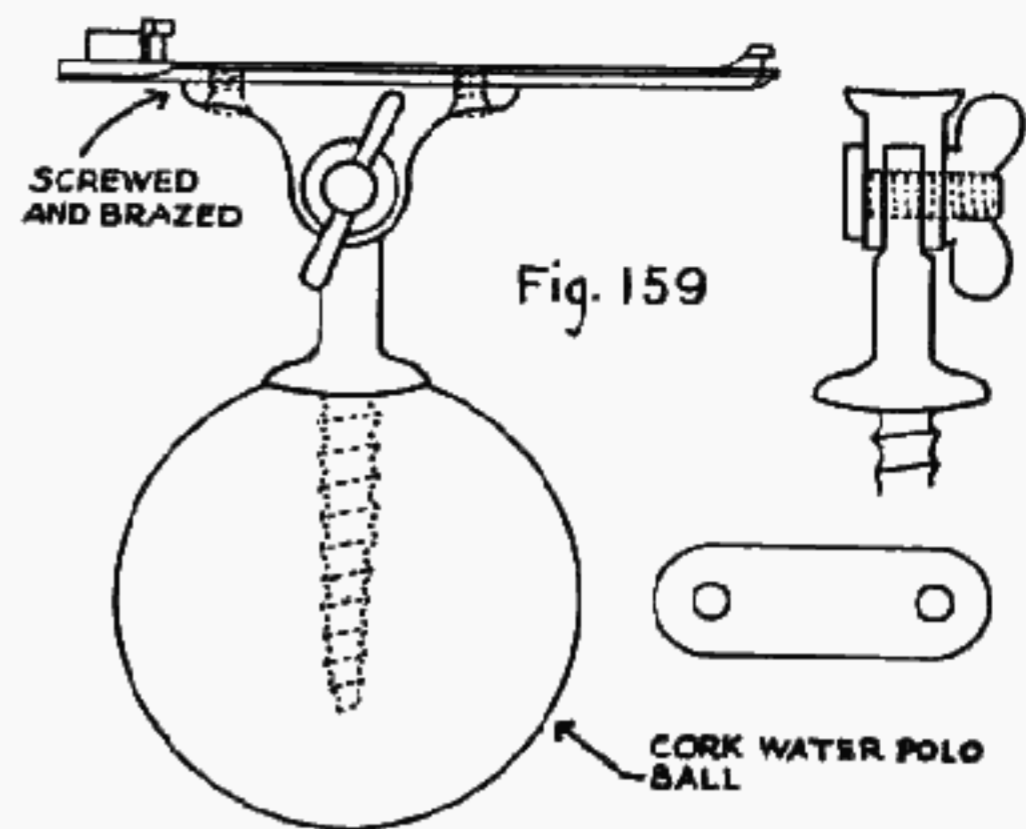

Fig. 159
**PALM REST.** A buttplate of this type naturally suggests a palm rest for the same rifle. Figure 159 gives details of one that is easy to construct and fit. The ball is a regular water polo ball of solid cork, obtainable in sporting goods stores. Order from the Director of Civilian Marksmanship an extra magazine floor plate, to which the palm rest is attached. Changing floor plates then enables one to use the rifle with or without palm rest as desired. No special instructions are needed for making this rest, as the drawing is self-explanatory. The parts may be made of cold rolled steel, brass, or aluminum.